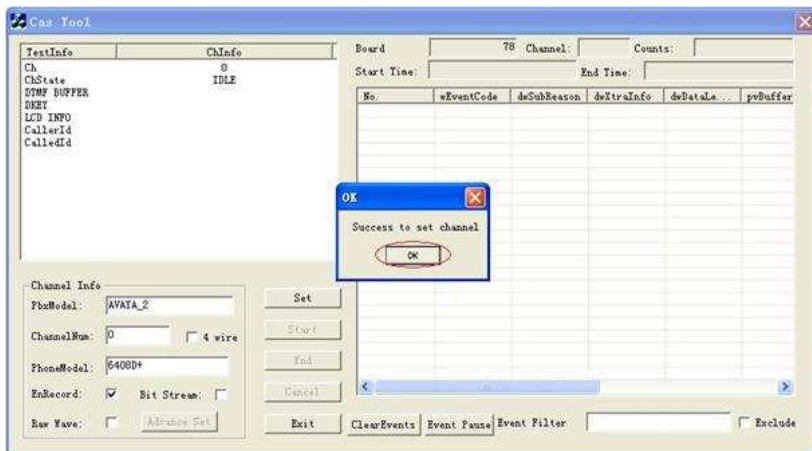

Figure 2-5
**Step 5:** Then the dialog box of 'Success to set channel' will pop up as shown in Figure 2-5.